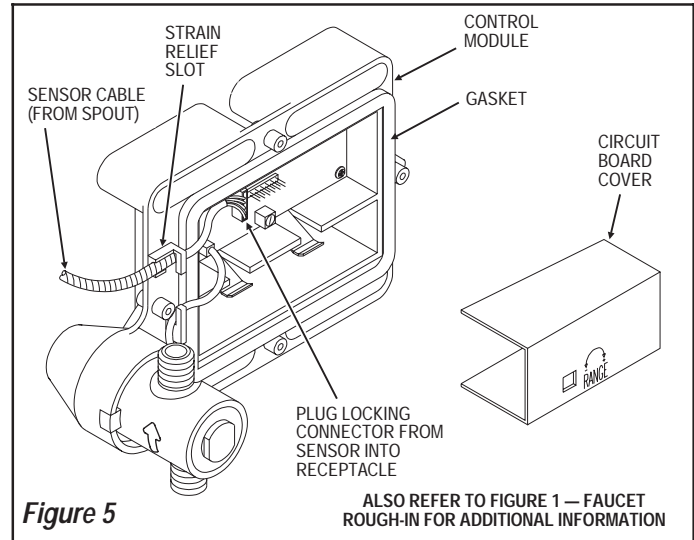

Figure 5
Step 4 — Connect Sensor Cable to Control Module (Figure 5)